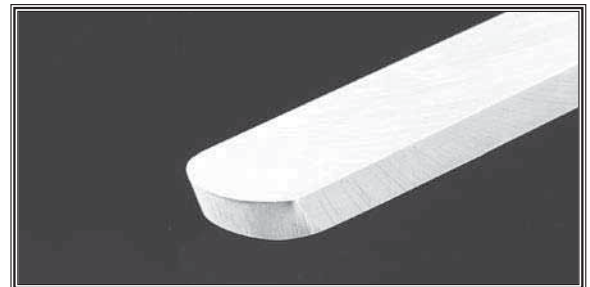

Figure 28. Round nose scraper.
- **Scrapers**—Mainly used where access for other tools is limited, such as hollowing operations. This is a flat, double-ground tool that comes in a variety of profiles (Round Nose, Spear Point, Square Nose, etc.) to match many different contours. **Figure 28** shows an example of a round nose scraper.